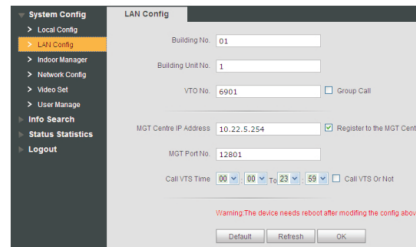

Figure 5-3
Step 4 In LAN Config interface, check Group Call, and click on OK. See Figure 5-3.